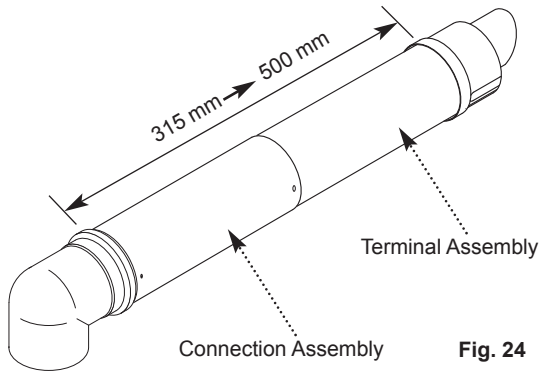

Fig. 24
2. The two sections can be adjusted to provide a length between 315 mm and 500 mm (Fig. 24) when measured from the flue elbow (there is 40 mm engagement into the elbow).